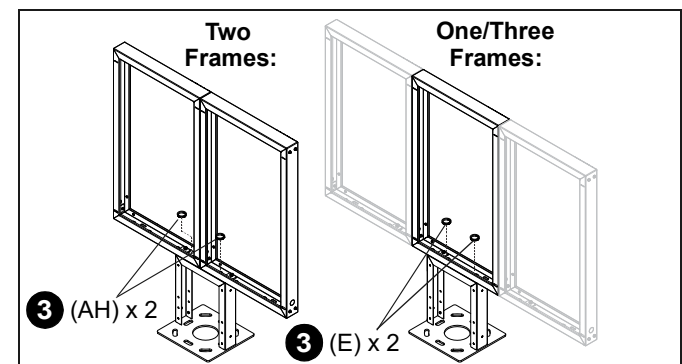

Figure 11
3. Install a grommet (AH) into each open knock-out location between the frame(s) and base. (See Figure 11)